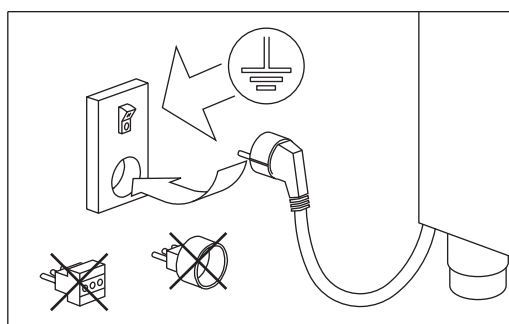

Fig.8
- do not insert adapters and/or reductions (Fig. 8)